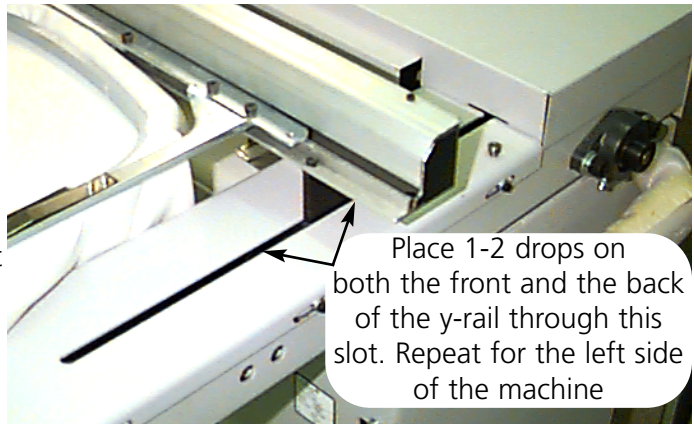

Figure 4-12
4. When **y-rails** is displayed, press . This moves the y-rail into its proper position for oiling. Refer to Figure 4-12 to lubricate the y-rail. Press  when done (the y-rail will move back and forth to distribute the oil). The y-rails on the EMT 10T are not located directly under the slot. you must angle the oiler slightly toward the middle of the machine to reach the rails. Figure 4-13 shows the location of the rails (with the side panel removed).